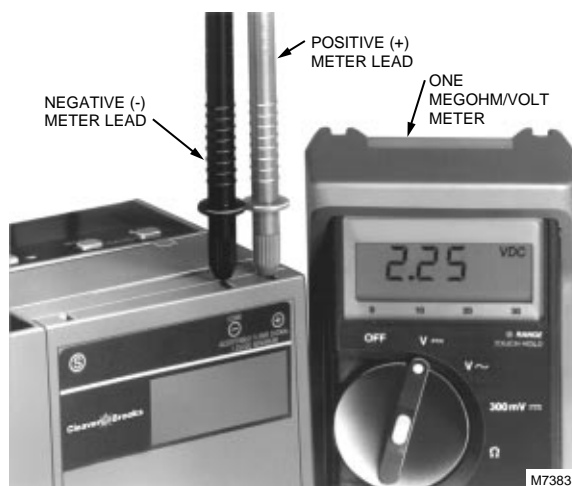

Fig. 22. Flame signal measurement.
### Flame Signal Measurement (Table 7 and Fig. 22)
- 3 Insert the positive (red) probe into the + jack of the flame amplifier. Insert the negative (black) probe into the (Com) jack of the flame amplifier, see Fig. 22.